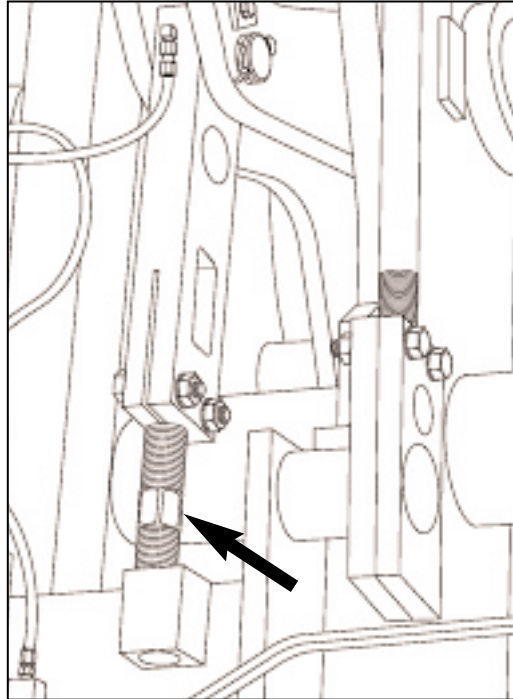
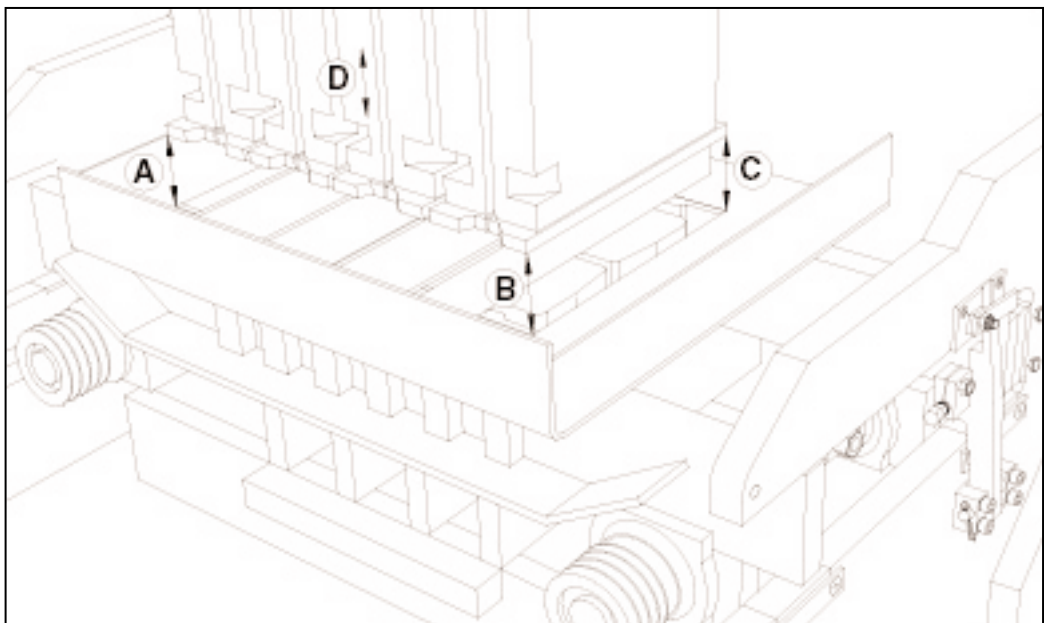
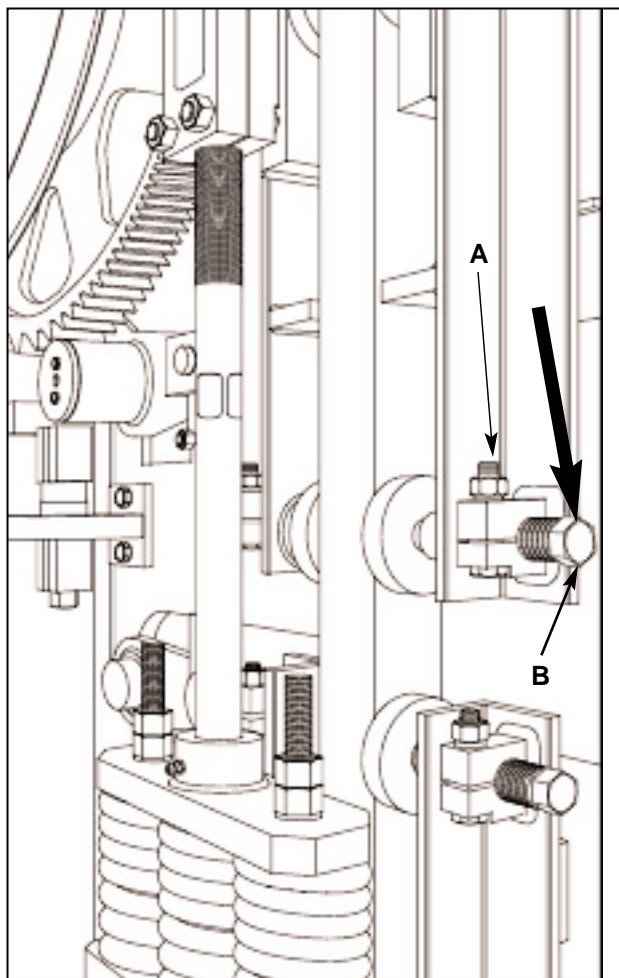

Figure 5.29 L.H. STRIPPER HEAD LINK.
Figure 5.30 STRIPPER SHOES POSITION.
Figure 5.31 LOWER GUIDE LINER ADJUSTMENT SCREW.
- 5.7.2 To determine if the head is level with mold (left to right and front to back), measure how far the bottom of the stripper shoes are above the mold end liners at all 4 corners (A, B, C and D) (see figure 5.30).
- 5.7.3 If the head is not levelled side to side (A to B) (see figure 5.30), adjust the left hand stripper head adjusting link (see figure 5.29).
- 5.7.4 If the stripper head is not level (B to C) (see figure 5.30) with the mold from front to back, back out both lower guide liner adjusting screws on the stripper head frame at the slide shaft on the left hand side of machine (see figure 5.31). Loosen nut (A) and adjust with bolt (B).
- 5.7.6 After head is level with mold, tighten both adjustment screws against the slide shaft on the left hand side (see figure 5.31). Then loosen the front adjustment screws 1/4 of a turn and tighten clamp bolts.